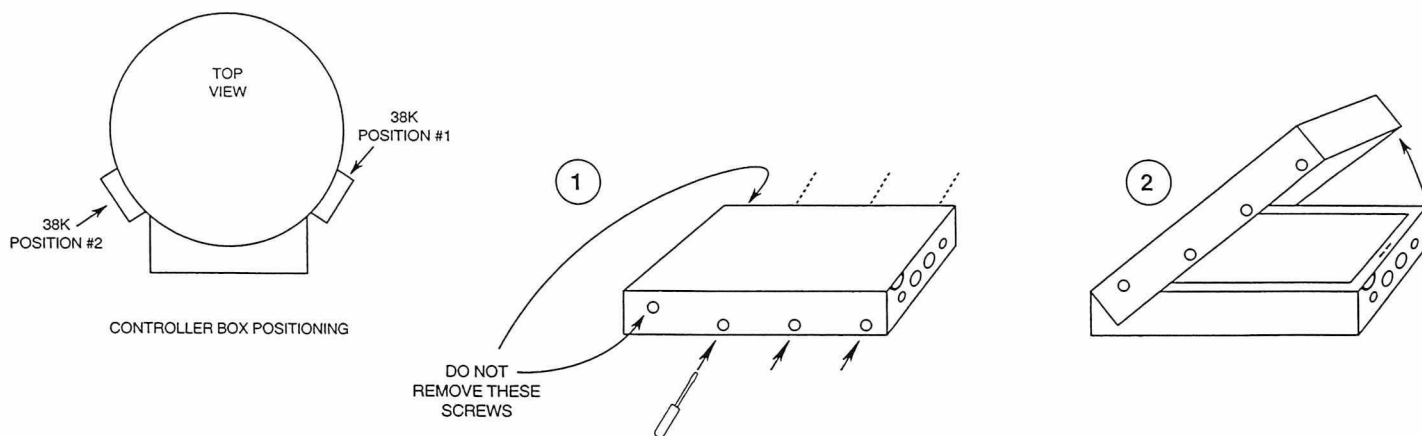

Figure 12. Removing the Controller Back Panel for the 38K.
Unscrew the six (6) screws that hold the back panel of the controller in place. Leave the two (2) screws attached that are located at the top of the controller box; one on either side of the control panel (See Figure 12.). Lift the back panel of the controller up far enough to gain access to the internal electrical connections. Connect the thermocouple, sensor probes
Open the lid of the refrigerator and unscrew the two (2) screws that attach the controller to the container. Remove the controller and close the lid of the refrigerator. Unscrew the six (6) screws that hold the back panel of the controller in place. Leave the two (2) screws attached that are located at the top of the controller box; one on either side of the control panel. (See Figure 12.). Lift the back panel of the controller up far enough